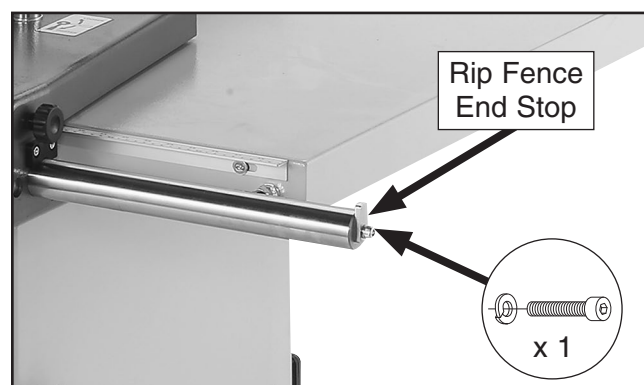

Figure 40. Rip fence end stop attached to rail.
34. Attach rip fence end stop on opposite end of rip fence rail with (1) M8-1.25 x 15 cap screw and (1) 8mm lock washer (see **Figure 40**).